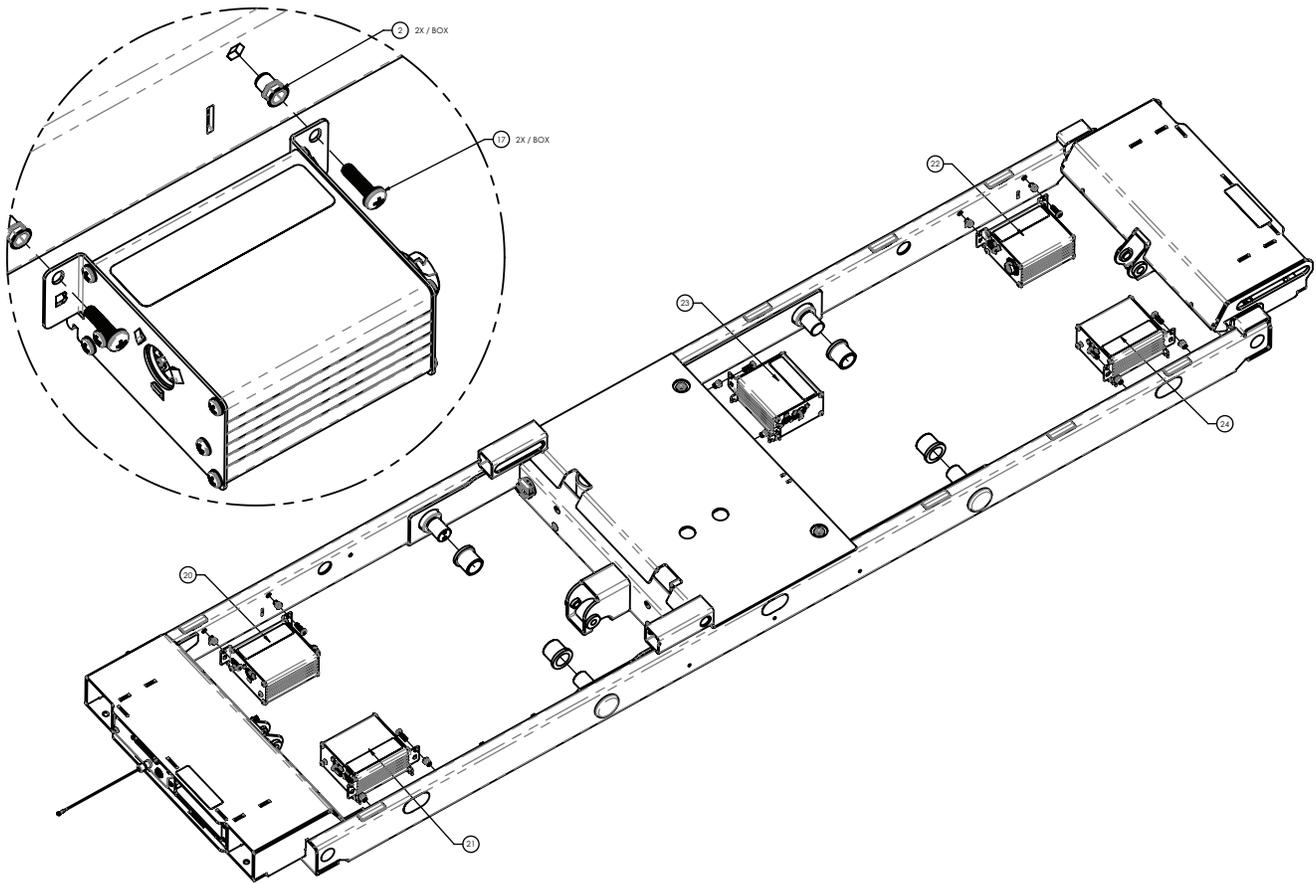

Figure 14 – ACB replacement
8. Using a #2 Phillips screwdriver, remove and save the two screws (17) that secure the ACB assembly (22, 24) to the litter frame (Figure 14).
12. Using a #2 Phillips screwdriver, remove and save the two screws (9) that secure the ACB (5) to the ACB box (Figure 14).